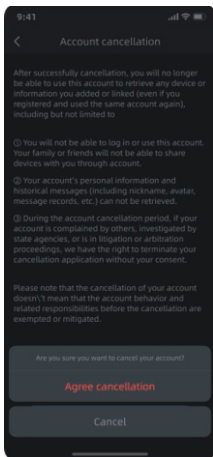

Figure 11
- 11) Figure 11: Click "Agree cancellation" to cancel the account and return to the login page. You will no longer be able to log in with this account. Click "Cancel" to keep the account.